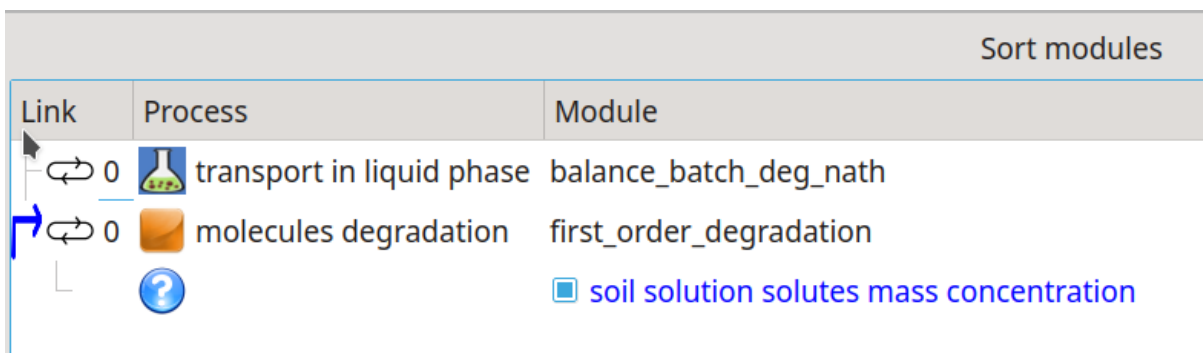

Figure 11: Selection of the input to be used for the process of iterations between modules
- To activate the iterations between the two modules, select the variable tagged as *Iterate with* (see figure 11). Once the variable is selected, the symbolic representation changes: the  icons (open loop) are replaced by the  icons (closed loop) which indicates that the process of iterations between the two concerned modules is active.